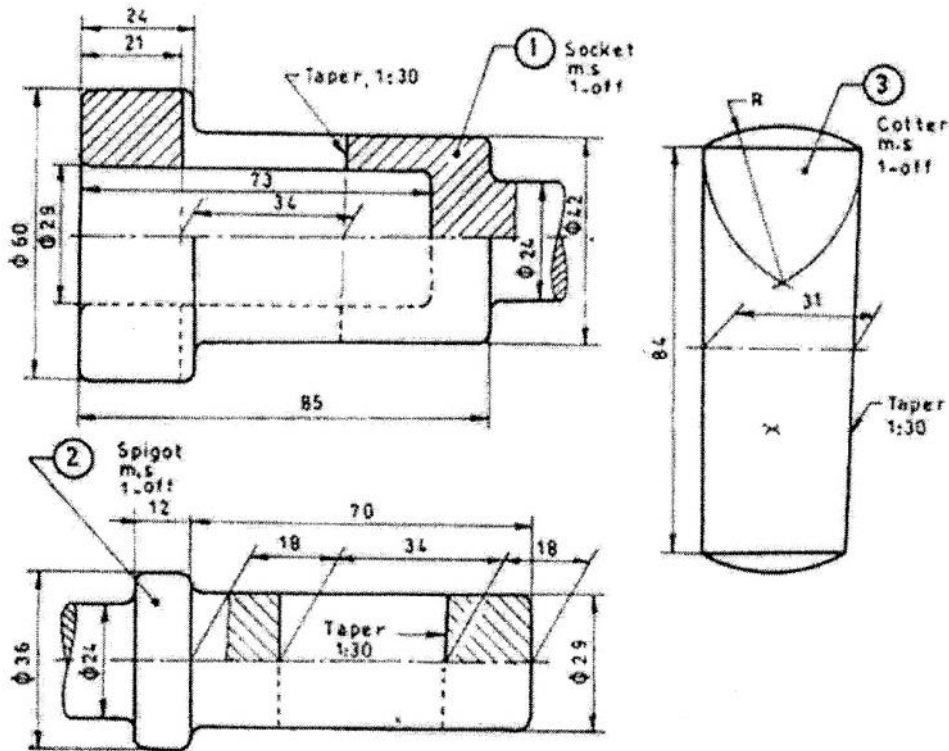

Figure 1
Q.4. Figure 1 shows the details socket and spigot Joint. Assemble the given parts and draw the front view of assembly.